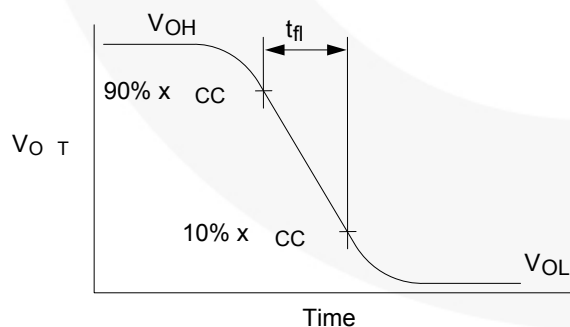

Figure 7. Active Output Fall Time
9. See Figure 7.
12. See Figure 7.